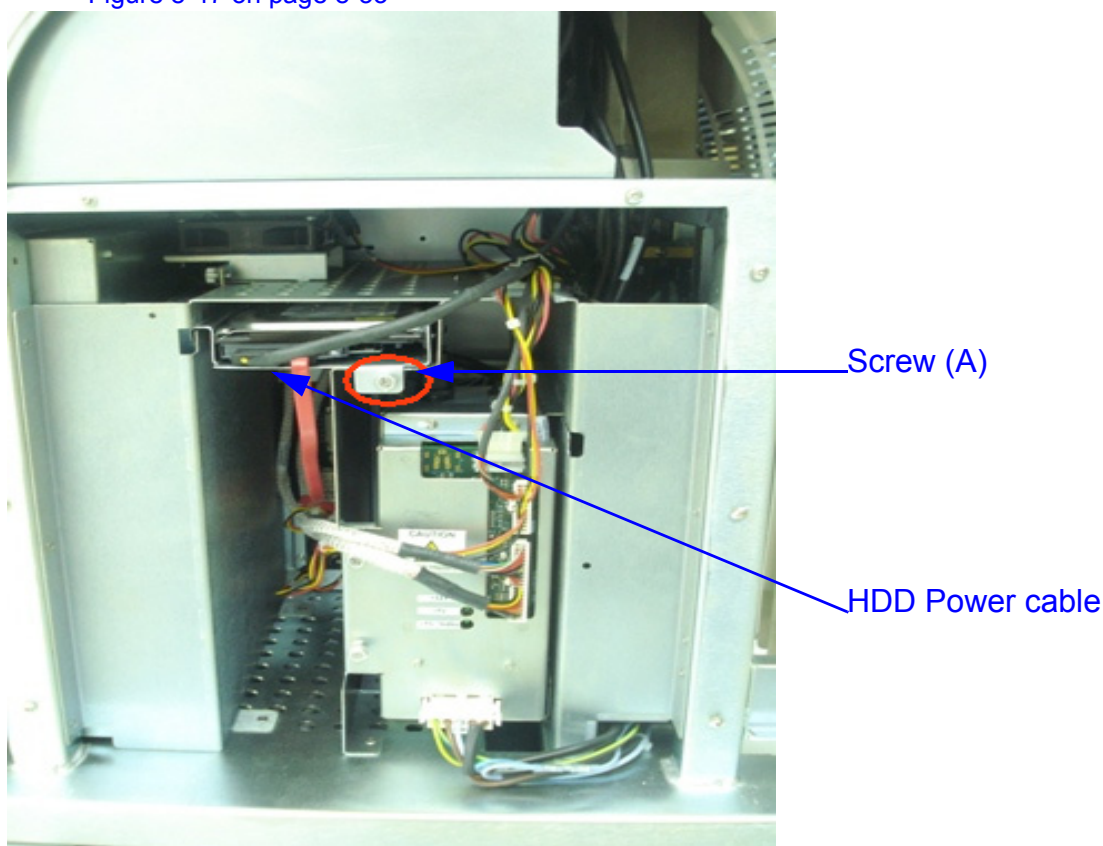

Figure 8-47 Removing Hard Disk Drive Power cable
Figure 8-47 on page 8-53
1) Loosen the two screw (A) and pull out the cables which are connected to PDB as shown in rectangle box (B) in the Figure 8-47 on page 8-53
2) Remove LV and PDB assembly. Refer Figure 8-47 on page 8-53